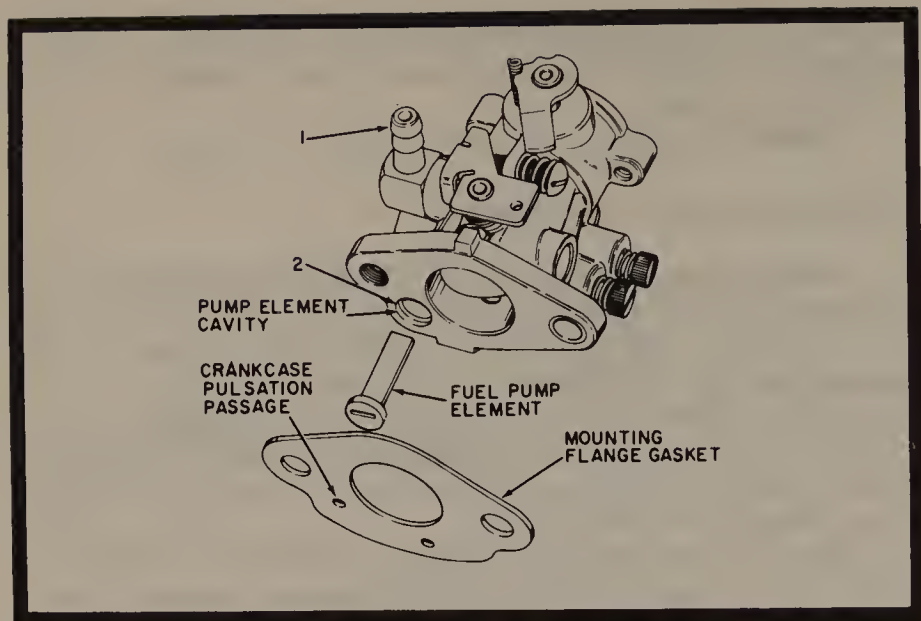

Fig. 3-13. Tecumseh Diaphragm Type Carburetor with a Built-In Fuel Pump.
The second type of diaphragm carburetor is very similar to the above, but has the additional refinement of a fuel pump. Either there will be two separate diaphragms in the separate chambers above each other, or more commonly, there will be a single diaphragm and a fuel pump element as in the Tecumesh pattern shown in Fig. 3-13. On inflation (Fig. 3-14) the pump element (1) expands and forces fuel out of the pump cavity (2) against the inlet fitting check valve (4) which closes, and into the needle valve by way of the body check valve (5). From this point, the carburetor functions as described in the preceding paragraph.